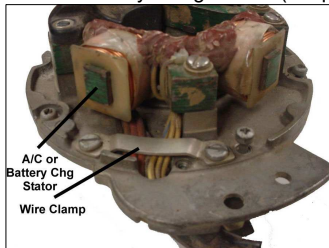

Fig. 1
5. Remove the wire clamp bracket on the top of the stator plate. (Fig. 1)